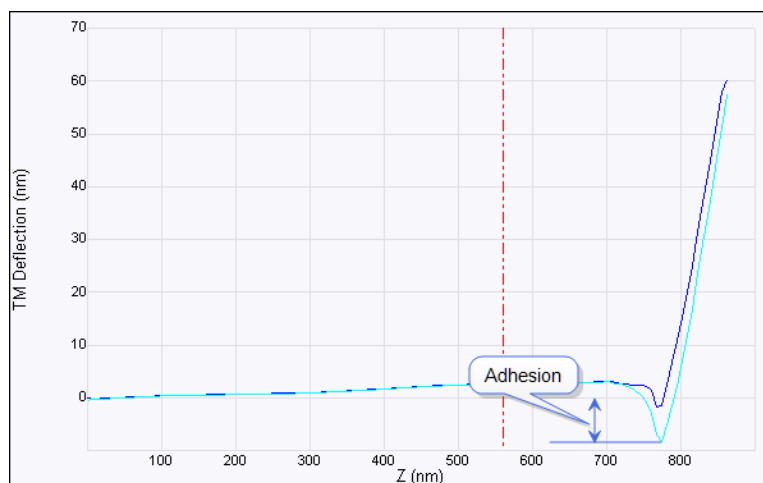

Figure 7.4g: Adhesion
- **FV Adhesion**: The peak force below the baseline. See Figure 7.4g.